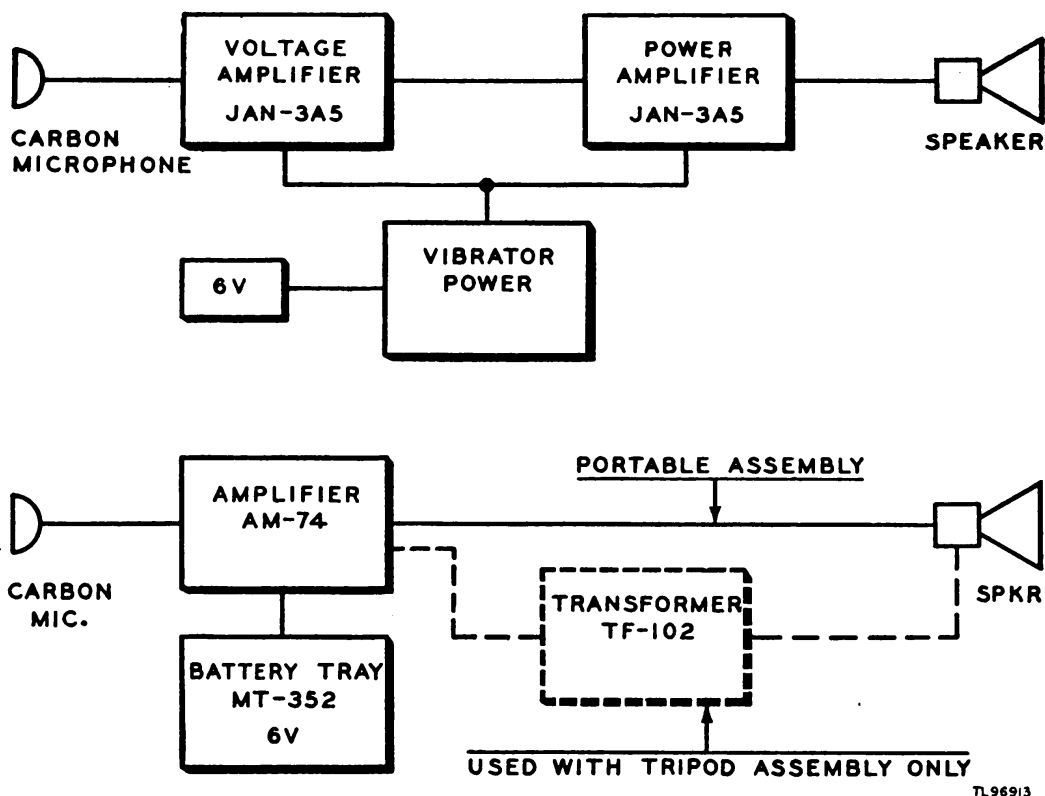

Figure 17. Over-all block diagram and block diagram of amplifier stage.
38. AMPLIFIER AM-74 (figs. 17 and 18).